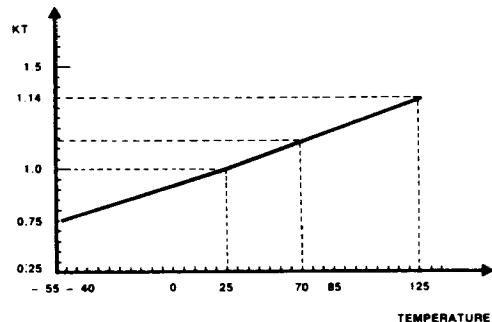
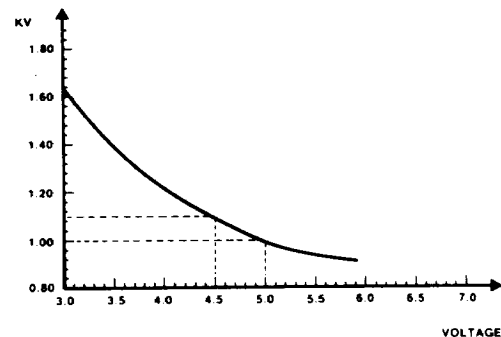

Figure 6 : Propagation delay relative to temperature
Figure 7 : CMOS propagation delays as a function of supply voltage
The effect of temperature may be estimated from figure 6. The maximum junction temperature will determine a temperature multiplier (KT). In CMOS technology, the junction temperature is usually close to the ambient temperature but for more details refer to MHS note PR/SC/2546. Similarly, figure 7 shows the effect of supply voltage (KV). MHS assumes a 33 % variability resulting from all other factors including processing thus process variation factors are :